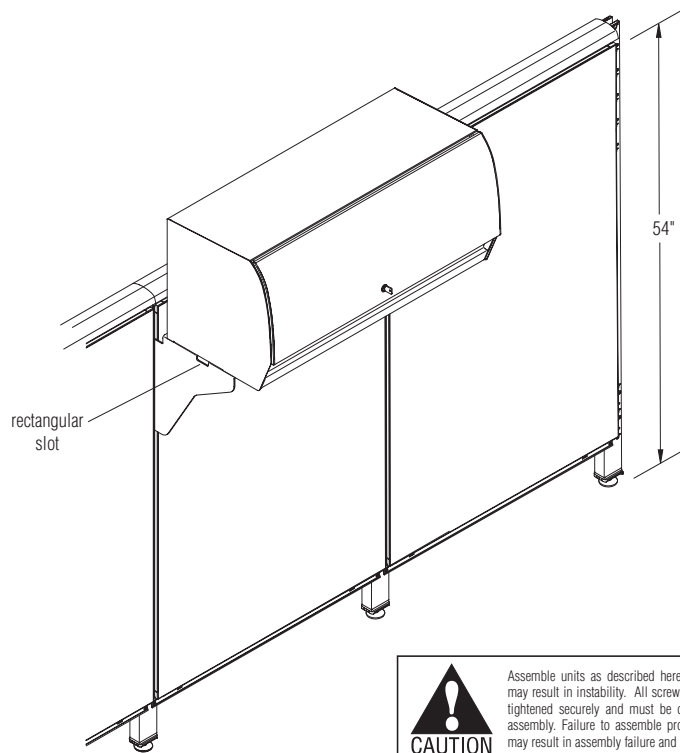

Figure 2
2. Position balance cabinet on top of brackets aligning the two oblong slots of the bracket with the threaded holes of the cabinet (Figure 2).